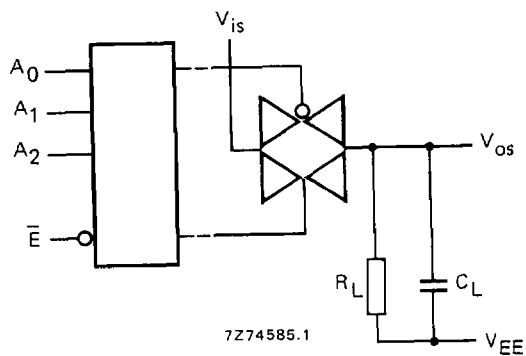

Fig. 8.
- $R_L = 10\text{ k}\Omega$ to V_{EE} ; $C_L = 50\text{ pF}$ to V_{EE} ; $\bar{E} = V_{SS}$; $V_{is} = V_{DD}$ (square-wave); see Fig. 8.
- $R_L = 10\text{ k}\Omega$; $C_L = 50\text{ pF}$ to V_{EE} ; $\bar{E} = V_{SS}$; $A_n = V_{DD}$ (square-wave); $V_{is} = V_{DD}$ and R_L to V_{EE} for t_{PLH} ; $V_{is} = V_{EE}$ and R_L to V_{DD} for t_{PHL} ; see Fig. 8.
- $R_L = 10\text{ k}\Omega$; $C_L = 50\text{ pF}$ to V_{EE} ; $\bar{E} = V_{DD}$ (square-wave); $V_{is} = V_{DD}$ and R_L to V_{EE} for t_{PHZ} and t_{PZH} ; $V_{is} = V_{EE}$ and R_L to V_{DD} for t_{PLZ} and t_{PZL} ; see Fig. 8.
- $R_L = 10\text{ k}\Omega$ to V_{EE} ; $C_L = 15\text{ pF}$ to V_{EE} ; $\bar{E}$ or $A_n = V_{DD}$ (square-wave); crosstalk is $|V_{os}|$ (peak value); see Fig. 8.